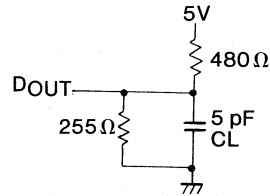

Figure 2 Output Load
2. T_{CX} and T_{OTD} are measured $\pm 200\text{ mV}$ from steady state voltage with specified loading in Figure 2. .
5. T_{OTW} and T_{OW} are measured ± 200 mV from steady state voltage with specified loading in Figure 2.